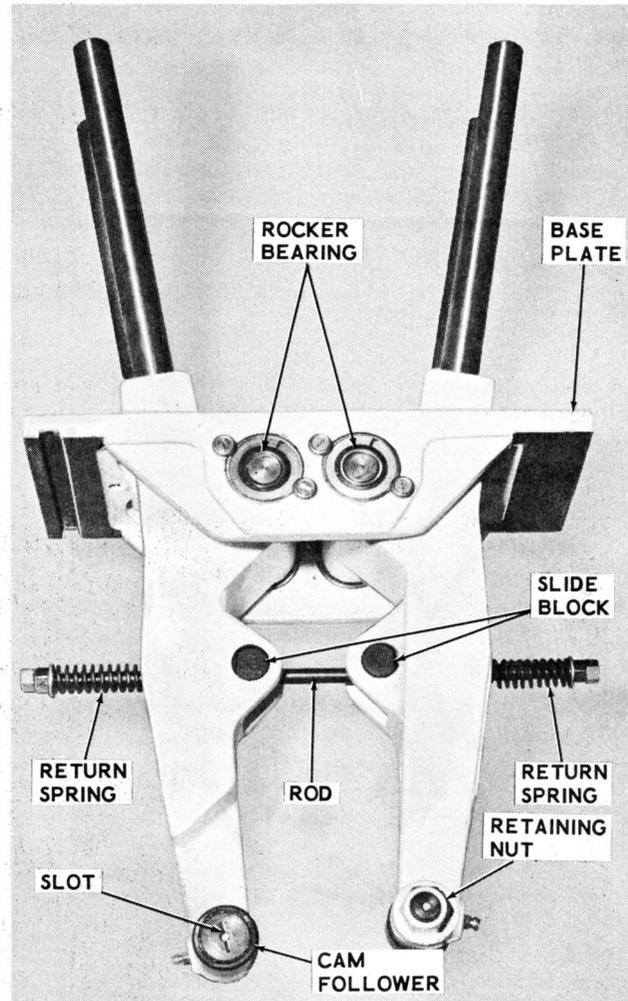

Figure 6-4. Bottom Seal Rocker Assembly
a. Replacing Cam Followers. Replace a worn cam follower (Figure 6-4) by placing a screwdriver in slot of follower and removing retaining nut from shaft of follower. Pull cam follower from casting. Install a new cam follower by reversing this procedure.
b. Replacing Springs and Slide Blocks. Check return springs, slide blocks, and rod (Figure 6-4) for wear. Replace worn components as follows:
(1) Remove two hexagon nuts and one flat washer from each end of the threaded rod.
(2) Remove each return spring. Pull threaded rod from slide blocks and remove slide blocks from casting.
(3) Examine all parts for wear and replace any badly worn parts.
(4) Install each slide block in the casting and insert threaded rod through the blocks. Oil slide blocks and rod.
(5) Install each return spring and secure with one flat washer and two hexagon nuts on each end of threaded rod. Apply oil to each return spring.
c. Replacing Rocker Bearings. Remove two screws and washers (Figure 6-4) retaining each ball bearing